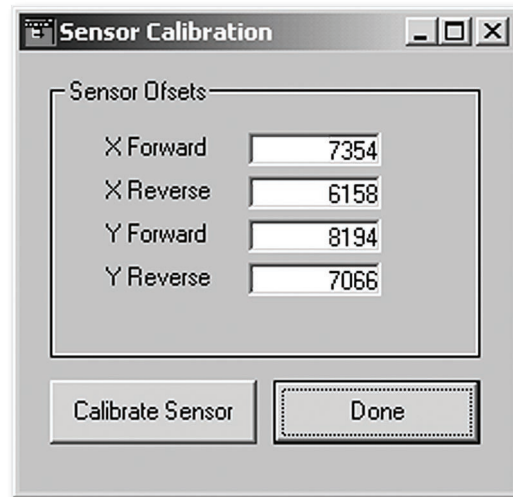

Figure 37. The Small Sensor **Calibration** window.
4. Ensure the cutter is ready with the tip of the tool positioned over the lower left corner of the black box and a **Green** keypad LED. Press the **Calibrate Sensor** button in the small window that appears. (*Figure 37*.)